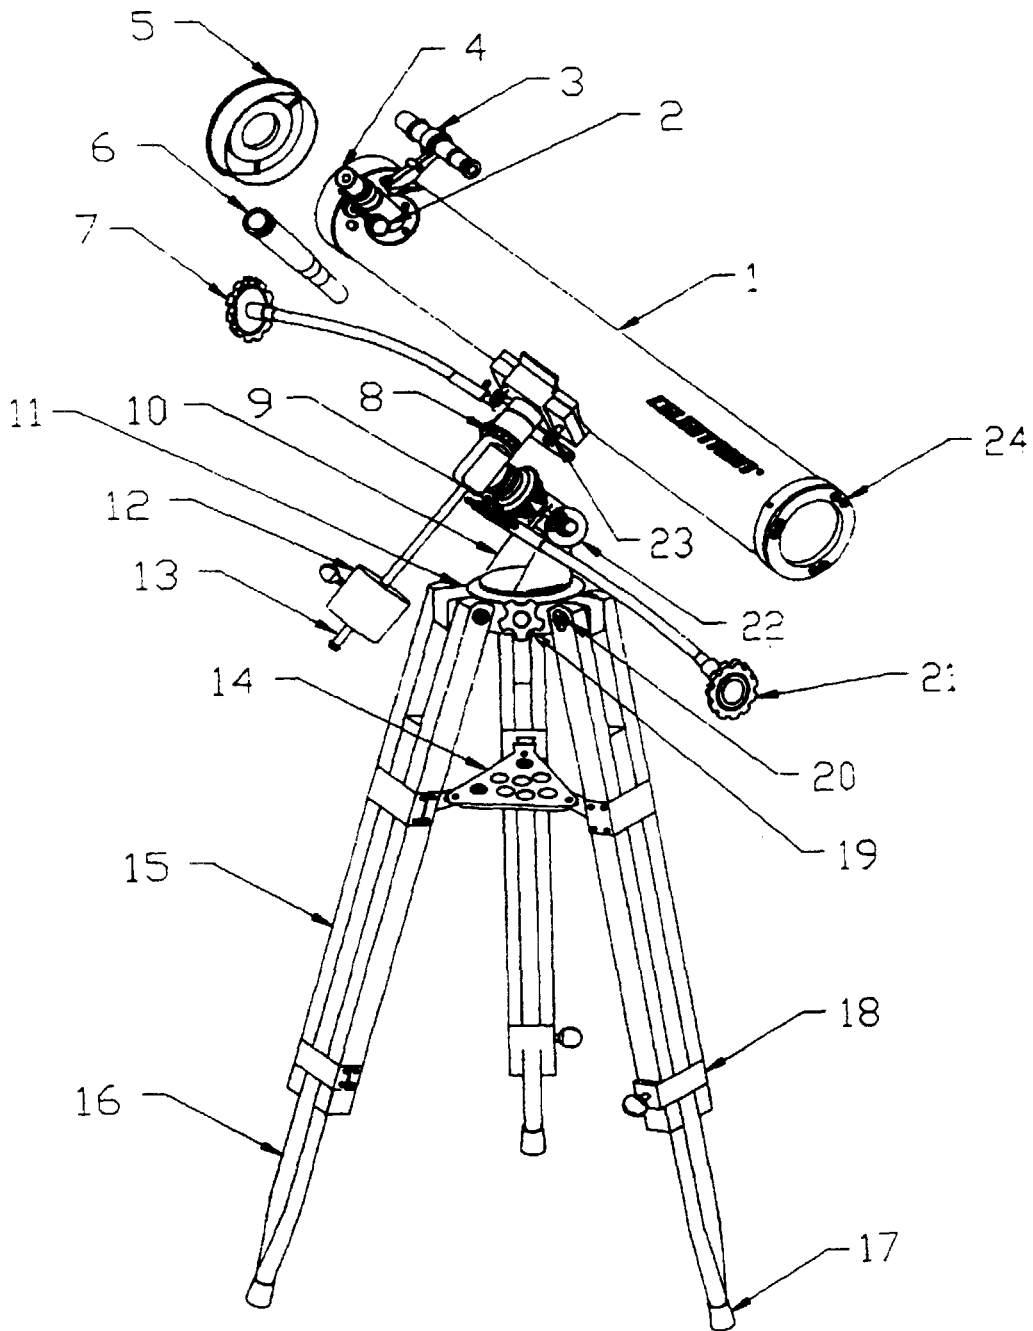

Figure 1
NOTE: Tripod and tube parts are the same as for the equatorial mount in Figure 1. Only those items that are different are labeled.
This manual covers both the equatorial mount models (see Figure 1) and the altazimuth mount models (see Figure 2). The altazimuth mount is the simplest and easiest type of mount to use with two motions—altitude (up and down) and azimuth (side-to-side). The equatorial mount is more expensive and contains setting circles and slow motion cables to make it easier to locate and track astronomical objects.
Please refer to Figure 1 (and the identifying parts list) as you assemble the telescope.
3. **a)** Attach the equatorial mount (#10) to the tripod as shown in Figure 1.
B. Before proceeding further, locate knobs #19 and #22 and tighten them finger tight after orienting the mount as illustrated in Figure 1 — for equatorial mounts only.
4. Slide the counterweight shaft (#13) through the counterweight (#12). Use the counterweight lock to lock the counterweight in place. By holding the counterweight in one hand, thread the counterweight shaft clockwise into the equatorial mount as shown in figure 1.
1. Remove the nuts from the tube mounting screws (#23). Put the bolts from the tube, as shown in Figure 1 (#23), into the bracket at the top of the mount and tighten the nuts.